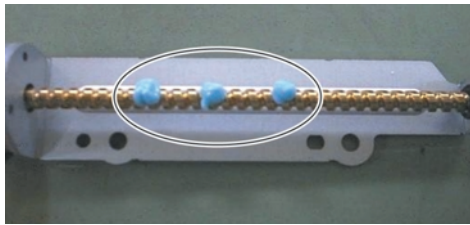

Fig. 11
- Apply grease to the screw at 3 points as shown below. (Fig. 11)
- スクリー部の下図3ヶ所にグリスを塗布します。(Fig. 11)